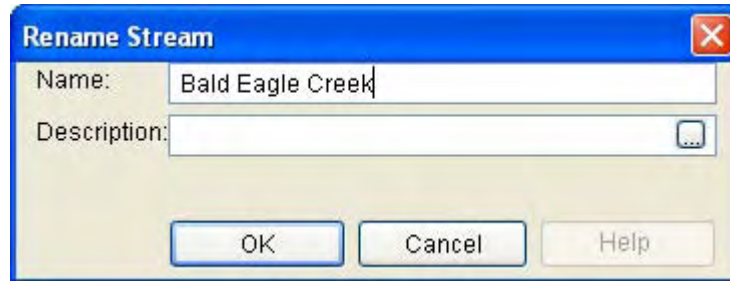

Figure 5.14 Rename Stream
3. Enter a new **Name** and **Description** for the stream element in the **Rename Stream** dialog box illustrated in Figure 5.14.